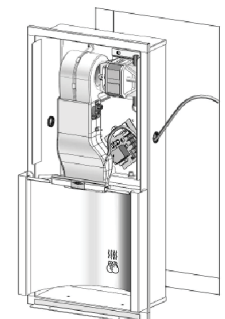

Fig. 4
5. Provide electrical service from nearest distribution panel to dryer mounting base in conformance with local electrical codes. Use wire as required by local electrical code, No. 12 (3.31mm² dia.) wire or larger. (See Fig. 4)
5. Provide electrical service from nearest distribution panel to dryer mounting base in conformance with dryer mounting base in conformance with local electrical codes. Use wire as required by local electrical code, No. 12 (3.31mm² dia.) wire or larger. (See Fig. 4)